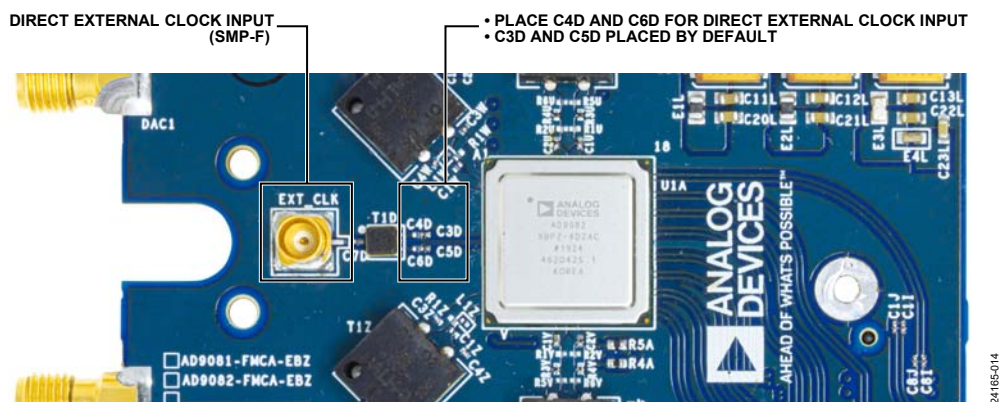

Figure 13. Capacitor Position for Direct External vs. On-Board HMC7044 Clocking
Set up the evaluation board as explained in the Evaluation Board Hardware Setup section. Open the board view. This section uses the board in its default configuration with the HMC7044 clock enabled (C3D and C5D are placed, and C4D and C6D are DNI). See Figure 13 for more information.
The chip view enables the user to customize the AD9081 or AD9082 beyond the functions available in the board view. Use the chip view if using a direct external clock. The chip view provides a more customizable user interface (UI) that directs the user through the various aspects of the device setup. For optimal use of the chip view, provide a direct external clock to the AD9081-FMCA-EBZ or AD9082-FMCA-EBZ. Refer to Figure 13 for information on how to modify the board for a direct external clock. When using direct external clock mode, the user must provide the device clock as well as the FPGA reference clock.